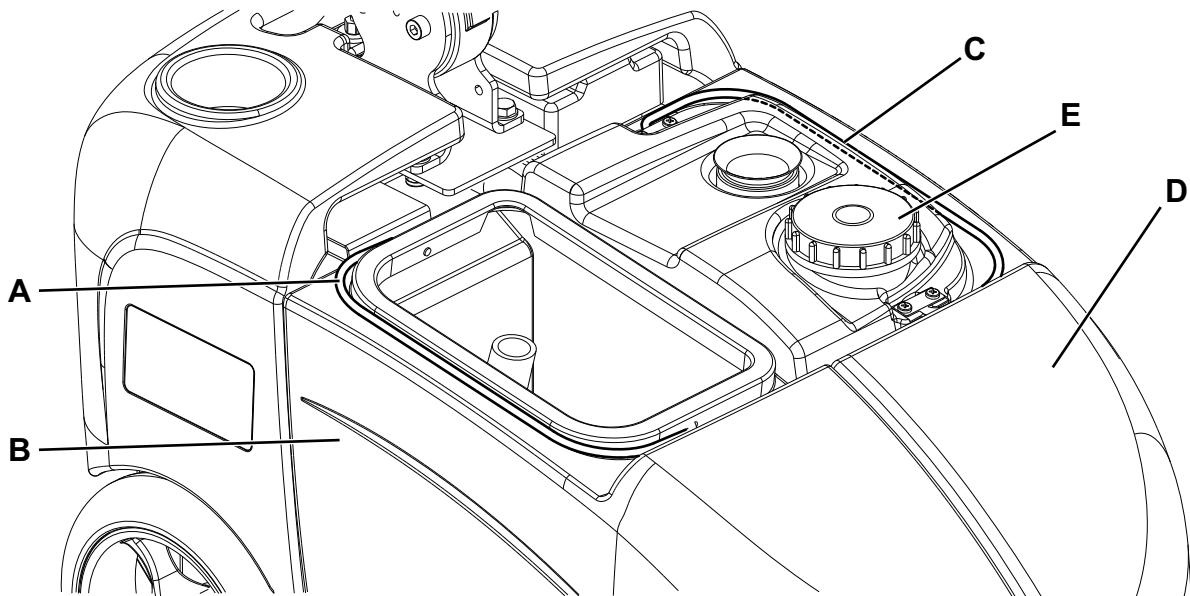

Figure 3
1. Switch off the machine by turning the knob (32) to "0".
3. Remove the transparent cover (24).
4. Grab the handle (A, Fig. 3) and lift the recovery tank (B).
7. Grab the handle (C, Fig. 3) and lift the solution tank (D).
8. Open the plug (E) and drain the solution tank. Then, rinse the tank with clean water.